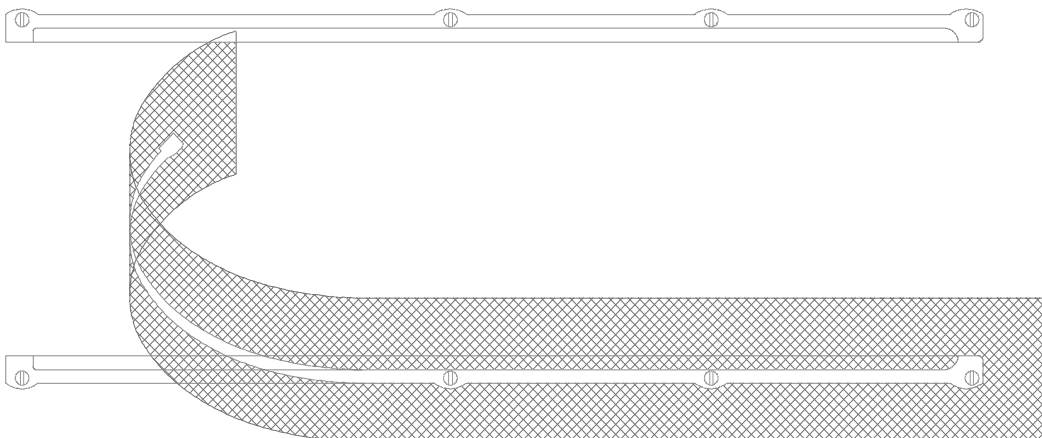

Figure 8.
- 10.8 After the RTV is no longer tacky, remove the rest of the tape as shown in Figure 8. Remove the upper trough and reinstall the sliding window. Allow the RTV to cure before exposing to moisture.